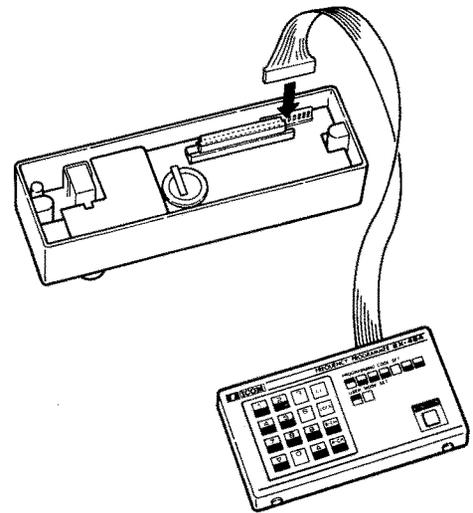

Fig. 2
- (3) Plug the connector from an EX-494 EXTERNAL KEYBOARD into J4. (Fig 2.)
- (4) Re-attach the CONTROL HEAD to the main body.